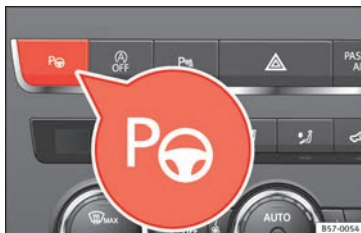

Fig. 200 At the top of the centre console: button to switch on the Park Assist system.
and rear bumpers, the **Fig. 200** button to switch the system on and off and the messages on the instrument panel display.
- Button **Fig. 200** is pressed.
To restart the manoeuvre it is necessary that none of these things occur and that button **Fig. 200** is pressed again.
tem does not correspond to the desired mode, you can select another mode by pressing button **P_{PA}** » **Fig. 200**.